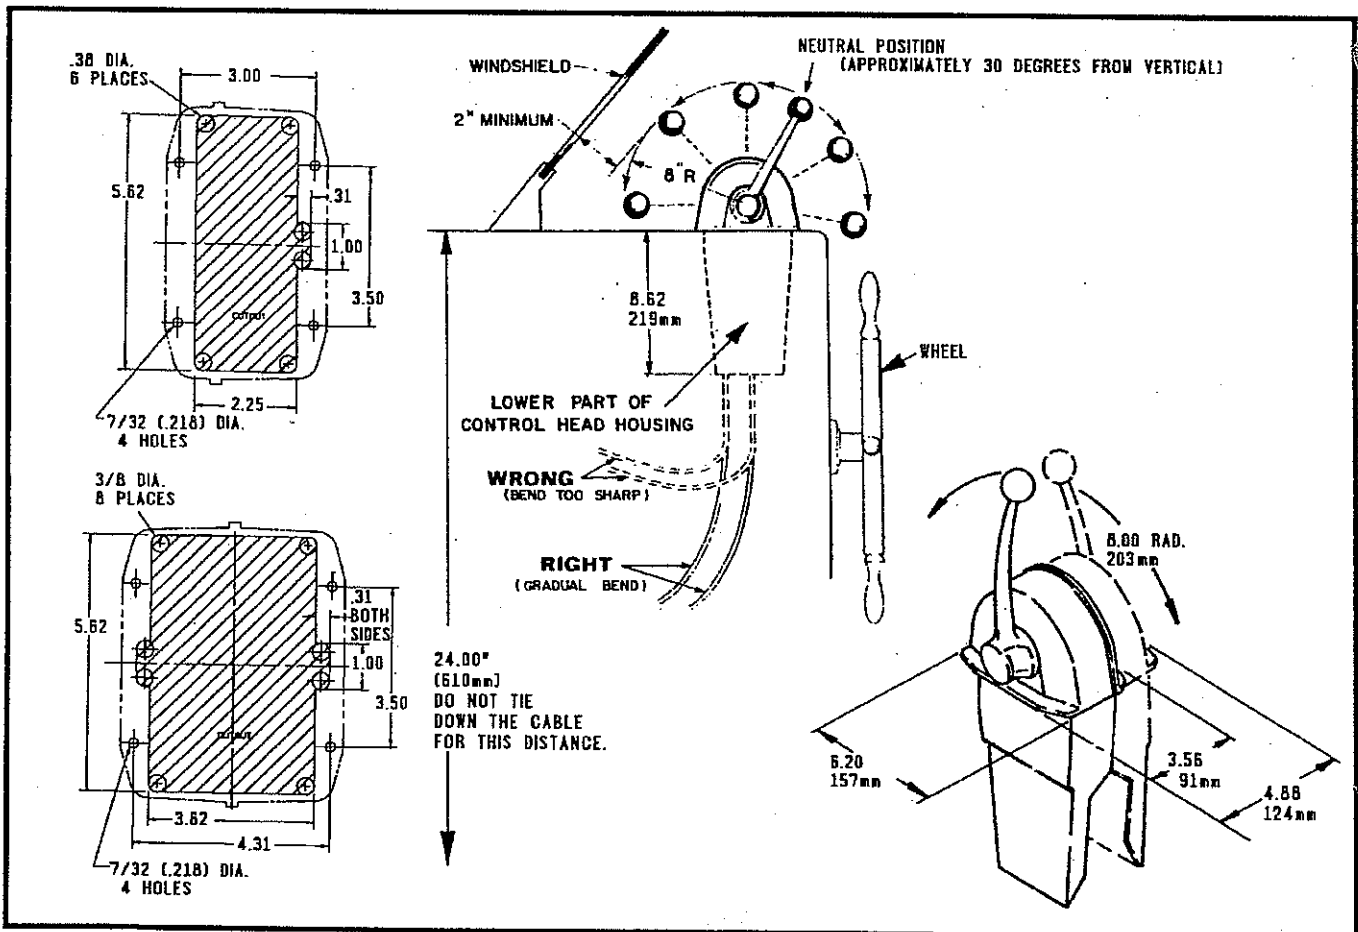

FIGURE 1 CONTROL MEASUREMENTS
- 1.1 Allow adequate clearance for Hand Lever swing (forward and reverse positions). See Figure 1 for Control dimensions.
- 1.2 Allow adequate clearance under the console for the Cables. Refer to Figure 1.